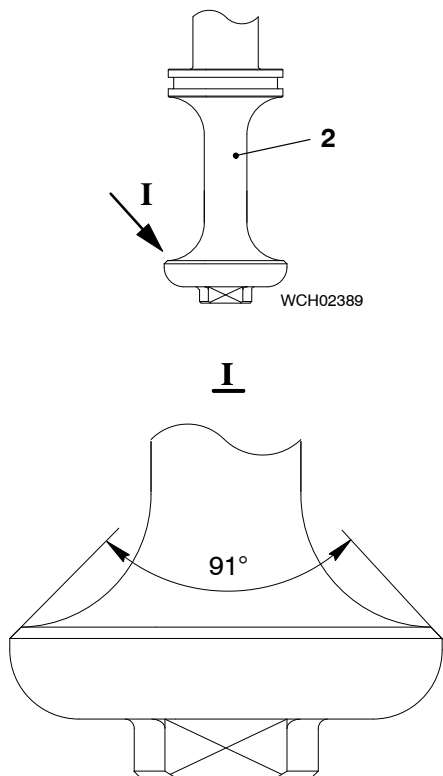

Fig. 2
- 1) If the seating faces of the housing (1, Fig. 2) and the valve spindle (2) have minimum damage, do as follows:
- 2) Manually grind the seat faces of the housing (1) and the valve spindle (2).
- 4) If the seating faces of the housing (1) and the valve spindle (2) have more than minimum damage, do as follows:
- a) Use a machine tool to grind the seating face of the housing (1) and valve spindle (2).
- b) Manually grind the seating faces of the housing (1) and the valve spindle (2) to get a good finish.